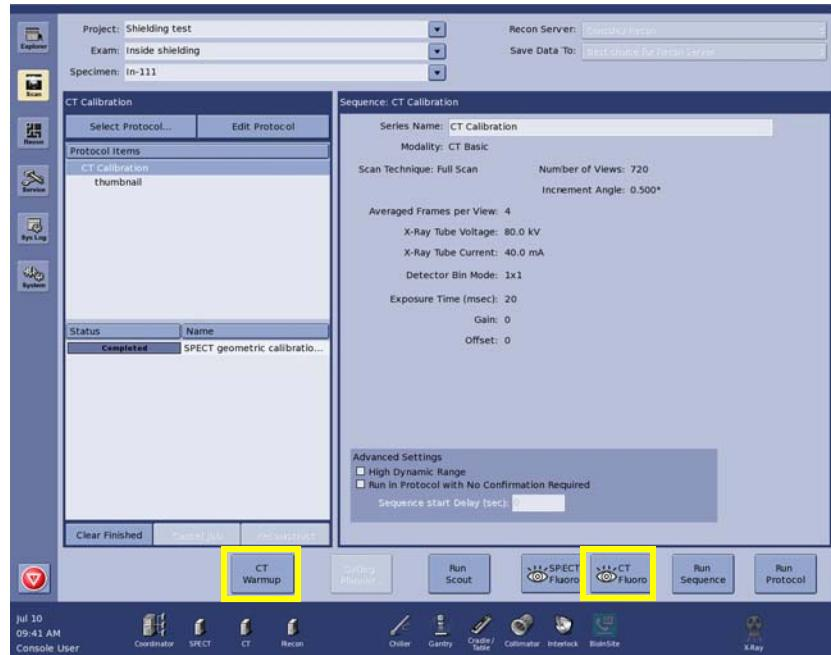

Figure 7-88
- 5.) From the Scan page, click the CT Warmup button. (Highlighted in Figure 7-88). Wait for the warmup to complete.
- 6.) Perform a CT Fluoro (button highlighted in Figure 7-88) and position the table such that the central BB is almost at the center of the detector (aligned with the cross-hairs on the Console screen).